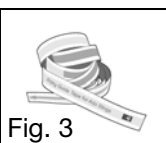

Fig. 3
- Ensure that the measurement tape (see Fig. 3) with article number MTA1000, is used the correct way (Teal (seaweed green) colour - XXS at the coccyx (spine)).